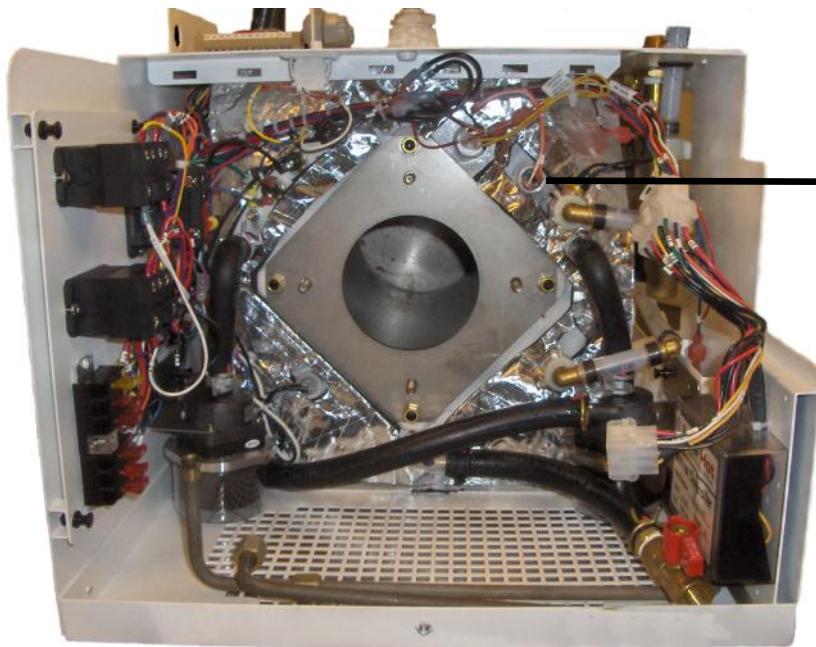

Figure 10
The control thermostat is installed into the Aqua-Hot's boiler tank and monitors the temperature of the antifreeze and water heating solution to determine when it is at operating temperature and when it requires heat. The Aqua-Hot is considered to be at operating temperature between 158°F and 190°F. Reference Figure 10 for location.
3. Disconnect the defective control thermostat's wires by separating the quick-disconnect terminals. Reference Figure 10 for location.